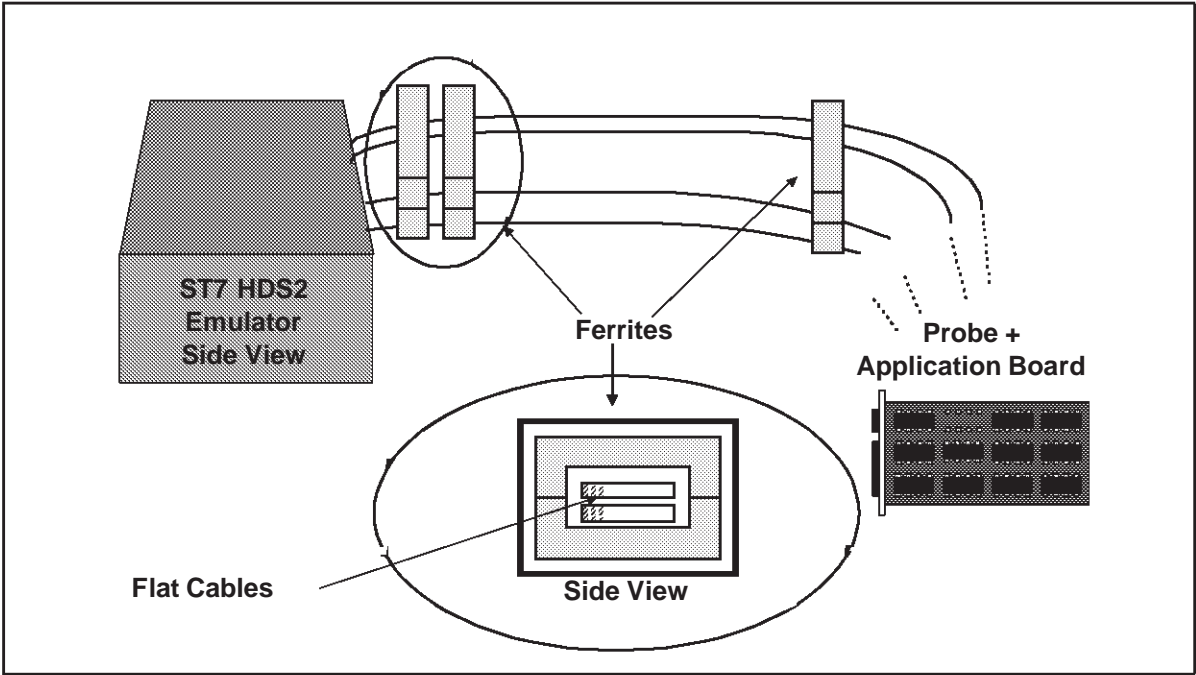

Figure 5: Making your Probes EMC-Compliant
- 3 EMC-Compliant Probes:** In order to work under an EMC-compliant environment, you will have to clip one or two EMC-ferrite on each 50-wire flat cable linking the probe to the emulator box. Place these ferrites as close to the emulator window as possible. Four ferrites are provided in the package. See *Figure 5* for an illustration of where to attach the ferrites.